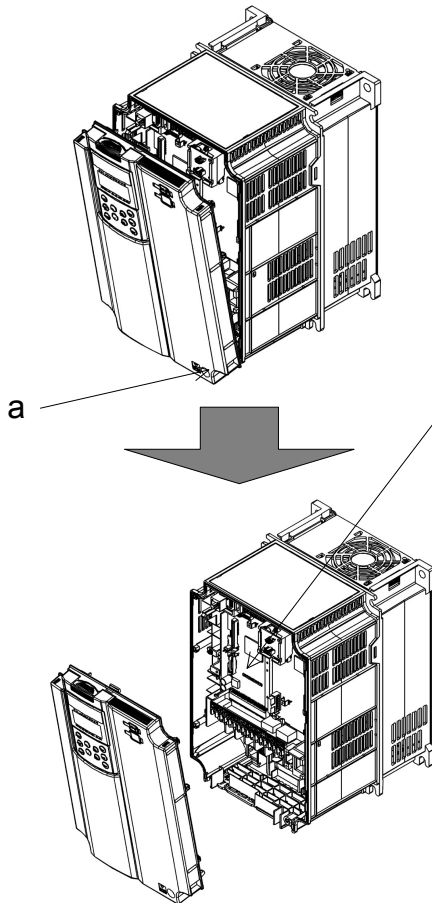

Figure 2.1-1 Removing the Front Cover
As shown in Figure 2.1-1, loosen the cover mounting screw on section "a" and pull out the upper end of the front cover towards you.
- (1) Set a attached spacer "b" onto location "a" of the option mount provided on the control PCB.
- (2) Mount the interface card so that connector CN1 on the card comes to be connected to connector C-port on the control PCB.
- (3) Secure the interface card with two attached screws "c."
- (4) Mount the front cover in the reverse order of removal, referring to Figure 2.1-1 or 2.1-2.
- (1) Mount the digital 16-bit option onto connector D-port provided on the control PCB.
- (2) Secure the digital 16-bit option with two screws "a" (that come with the digital 16-bit option) through holes ① and ②, and a screw "c" (that comes with this interface card) through hole ⑥, then set three spacers "b" (that come with the digital 16-bit option) into holes ③ to ⑤.
- (3) Set spacer "e" (that comes with this interface card) onto location "d" of the option mount provided on the control PCB.
- (4) Mount the interface card so that connector CN1 on the card comes to be connected to connector C-port on the control PCB.
- (5) Secure the interface card with two attached screws "f".
- (6) Mount the front cover in the reverse order of removal, referring to Figure 2.1-1 or 2.1-2.